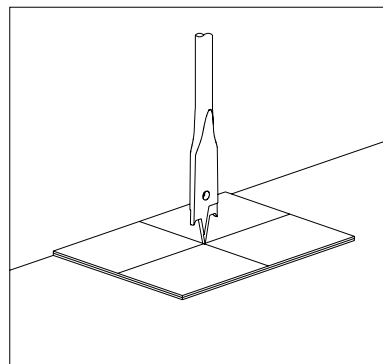

Figure 2
- To prevent drilling into your work surface, place a piece of scrap wood under the edge reinforcement panel and curtain. Drill a 9/16-inch hole in the edge reinforcement panel and curtain at each marked grommet position. (see Figure 2).